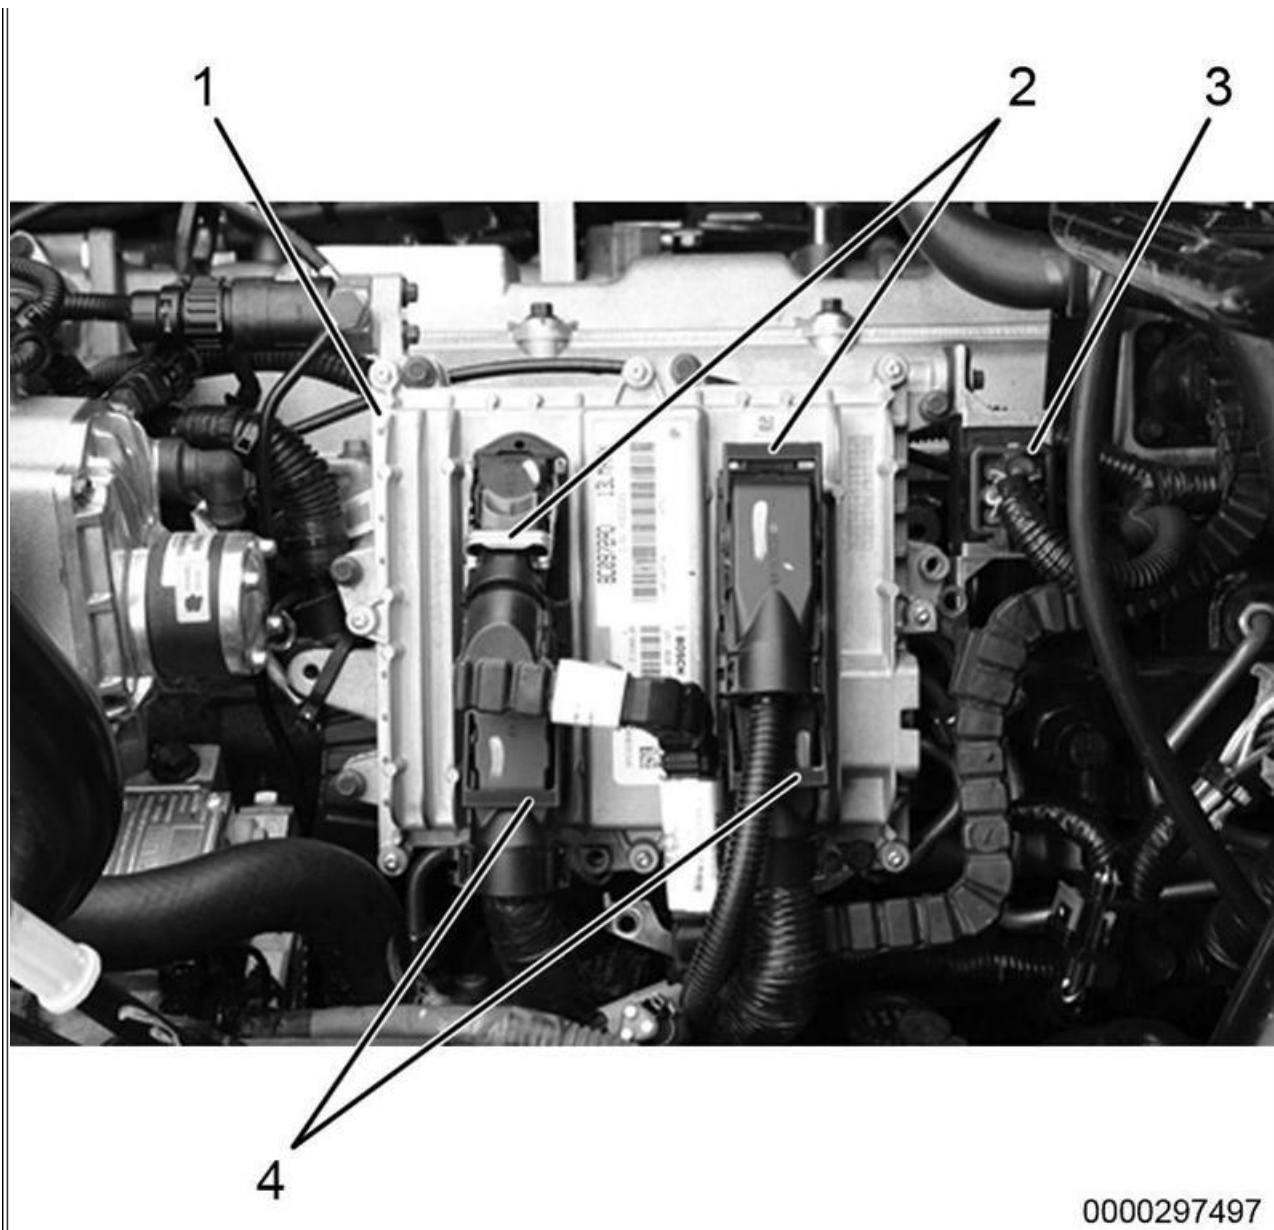

Figure 1: Electronic Control Module (ECM) Connectors
6. Disengage upper connector locks (Figure 1, Item 2).
8. Disengage lower connector locks (Figure 1, Item 4).
10. Disconnect cold start relay connector (Figure 1, Item 3) next to ECM.
12. Remove ECM (Figure 1, Item 1) from vehicle. Do not discard.